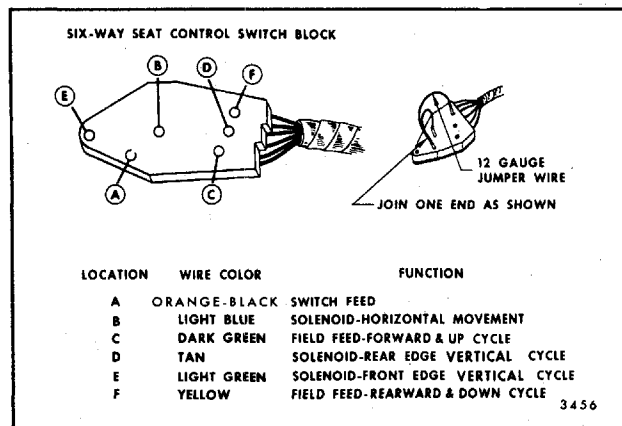

Fig. 10-31-Six-Way Seat Switch Block in Armrest
2. On bodies with switch in armrest (Fig. 10-31), proceed as follows: